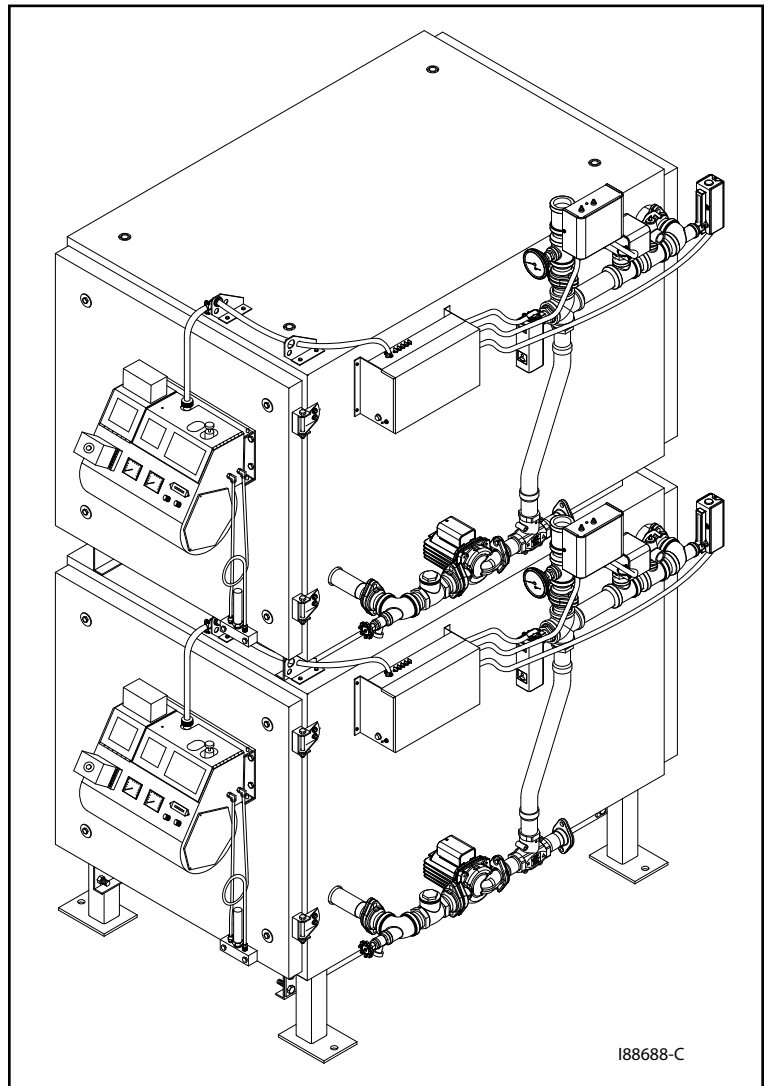

Figure 3C - Dual-Stacked Boilers (Completely Assembled)
ATTENTION: Dual-stacked units may be installed in several combinations: two CB-200-CTB boilers, two CB-350-CTB boilers, two CB-500-CTB boilers, or any combination of two models with the larger unit on the bottom. For optimal system functioning and to prevent system damage, *each* boiler must be installed/piped individually as shown in Figure 3C.
1. Refer to Figures 3C and 3D. Move the support stand into the approximate position where the dual-stacked boiler is to be installed, and place blocks (approximately 10 inches high) inside the stand to provide safety support for the boiler.